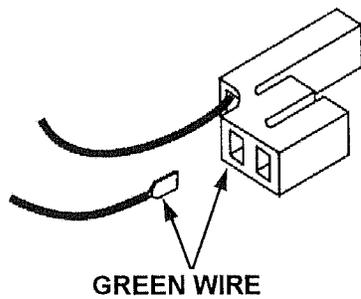

FIGURE 20 INTERLOCK CONNECTOR BODY
8. (See figure 20) Remove the green wire from the connector body. Use a small screwdriver (1/16" blade) inserted into the front of the connector to release the locking tab.